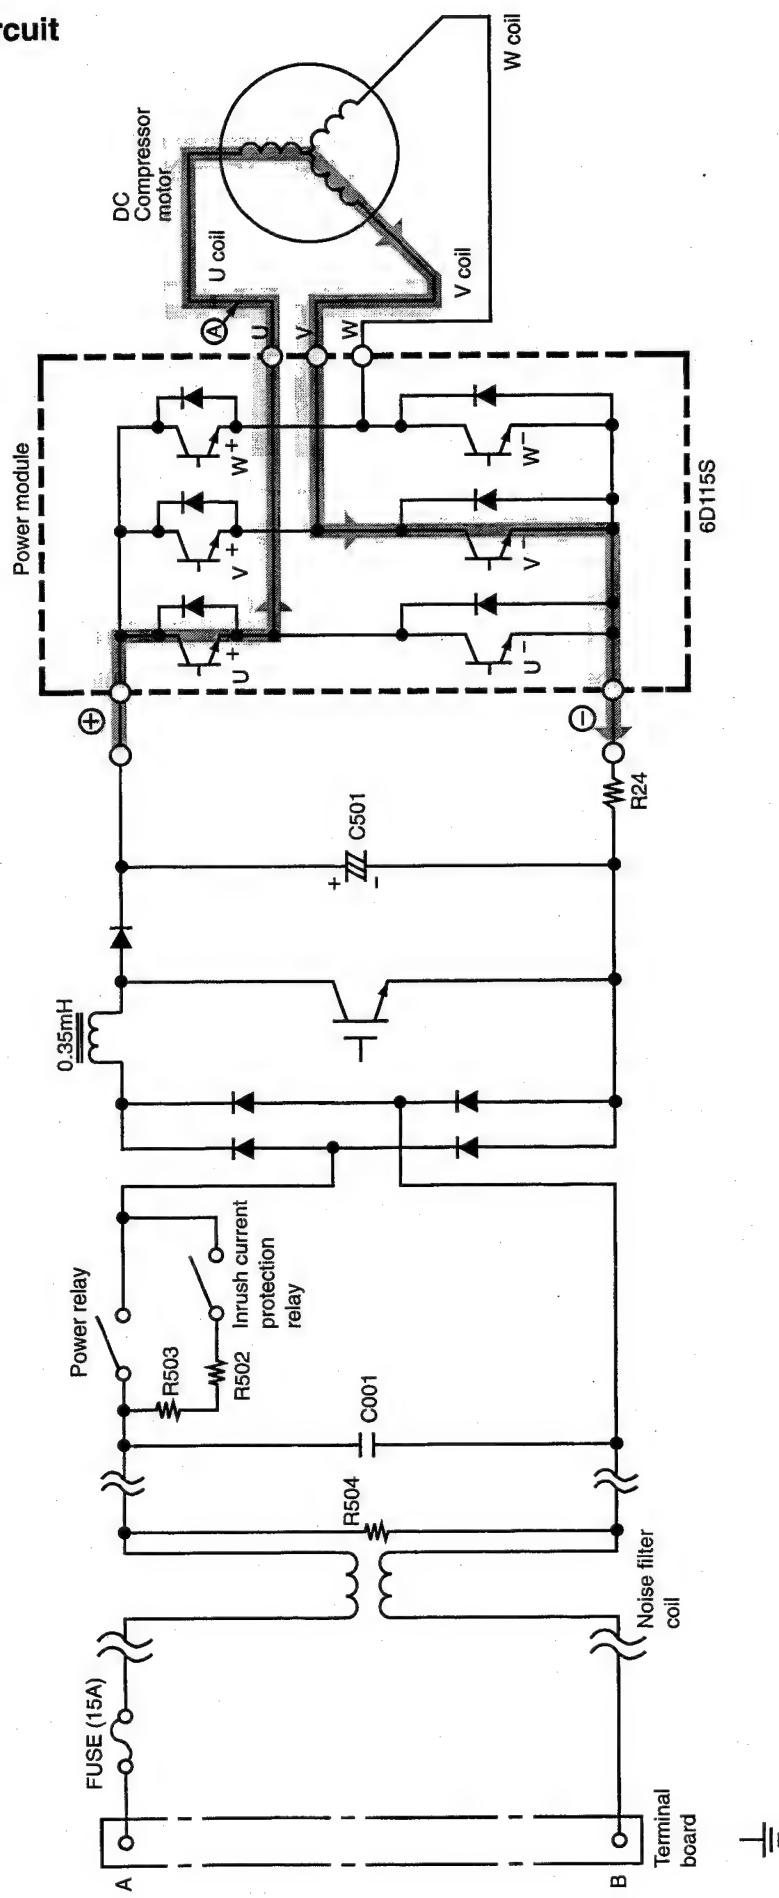
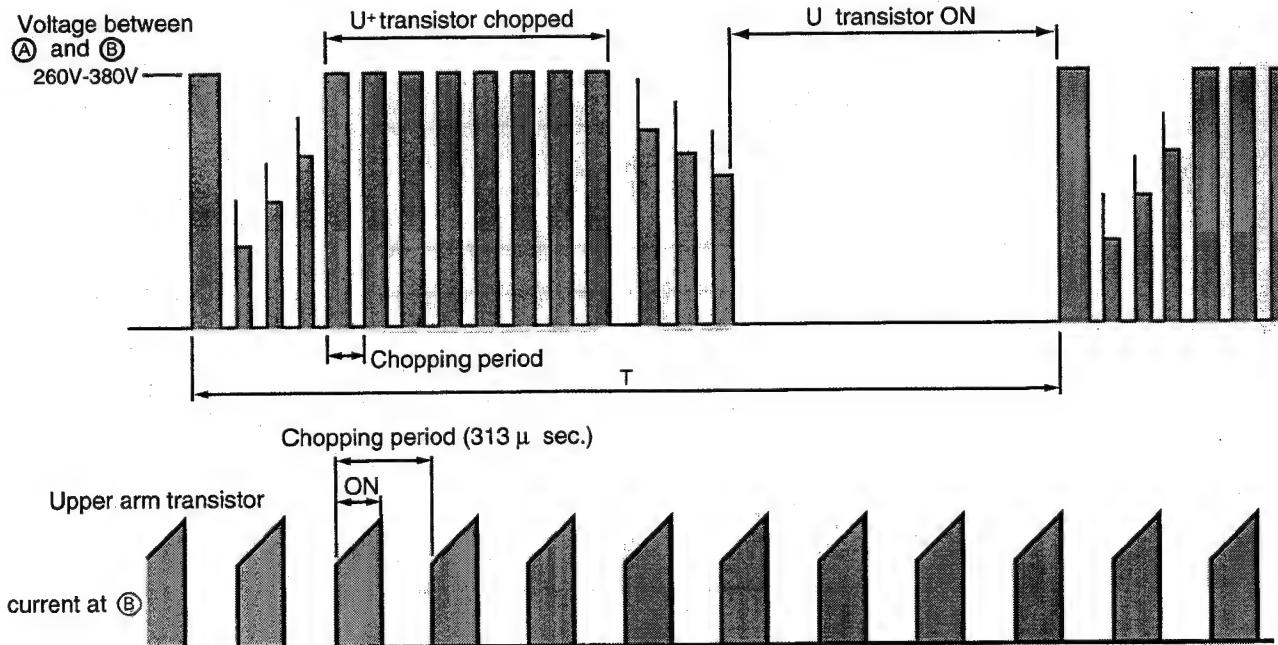

Fig. 3-1 Power module circuit ( $U^+$  is ON,  $V^-$  is ON)
Fig. 3-3 Voltage waveform at each point
- Fig. 3-1 shows the power module and its peripheral circuit. The three transistors on the positive  $\oplus$  side are called the upper arm, and the three transistors on the negative  $\ominus$  side, the lower arm.
At point E:  $U^+$  is ON,  $V^-$  is ON (circuit in Fig. 3-1)
- Fig. 3-3 shows voltage waveform at each point shown in Figs. 3-1 and 3-4.
- When power is supplied  $U^+ \rightarrow U^-$ , because of that  $U^+$  is chopped, current flows as shown below; ⑧
- When  $U^+$  transistor is ON:  $U^+$  transistor  $\rightarrow$  U coil  $\rightarrow$  V coil  $\rightarrow$   $V^-$  transistor  $\rightarrow$  DC current detection resistor  $\rightarrow$  Point ⑧ (Fig. 3-1)
- Since current flows at point ⑧ only when U+ transistor is ON, the current waveform at point ⑧ becomes intermittent waveform as shown in Fig. 3-3. Since current at point ⑧ is approximately proportional to the input current of the air conditioner, input current is controlled by using DC current (Id) detection resistor.